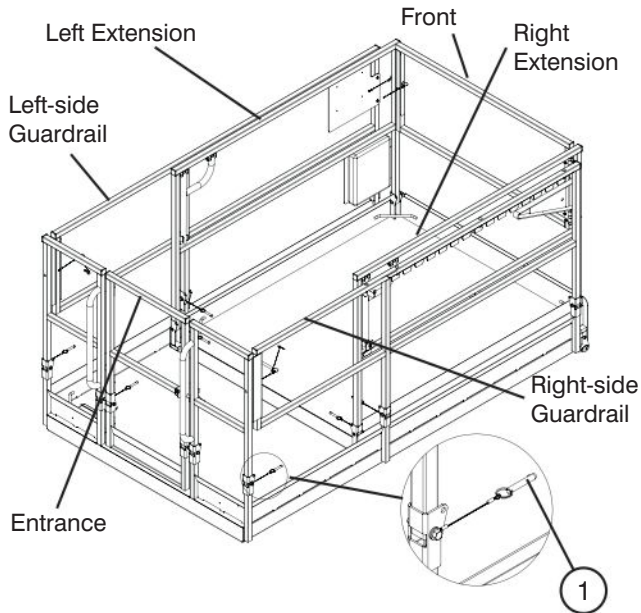

Figure 2-17a. Folding Guardrail System
7. Fold down guardrails in the following order: front, right extension, right-side, left extension, left-side and entrance (refer to Figure 2-17a).